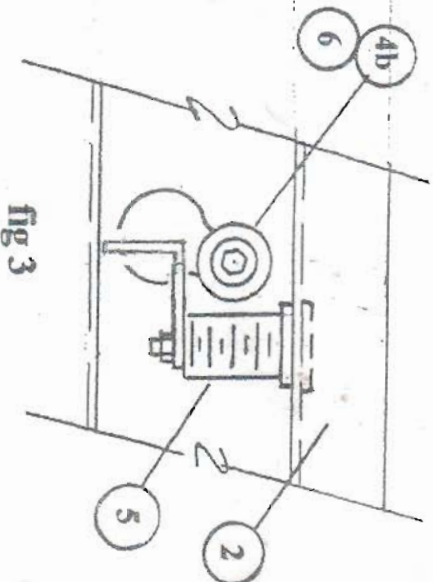

fig 3
4. Install the EASY BRACKETS on the docking posts. (See fig 3) **Note:** Use the barrel key provided to open the cam lock prior to installation on the docking posts. The key can not be removed until the cam lock is fully engaged under the docking post.